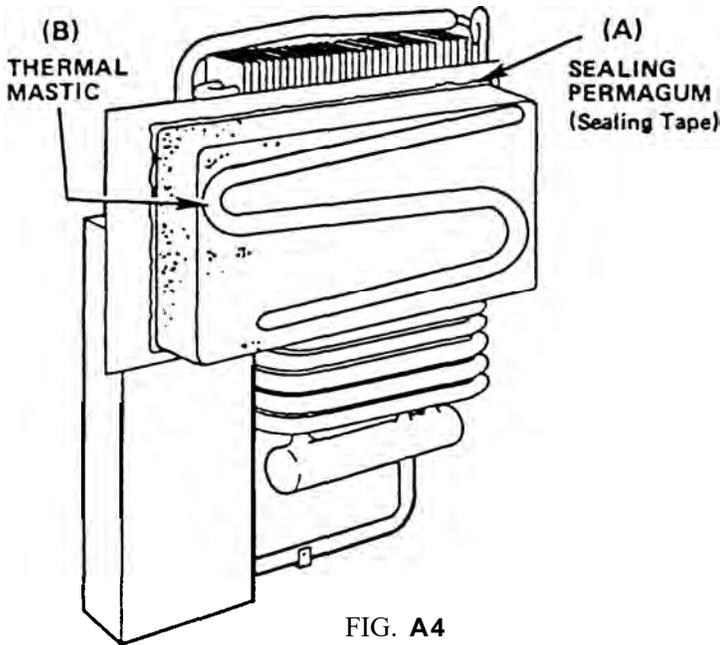

FIG. A4
2. Apply sealing permagum (sealing tape) on mounting plate (A; FIG. A4).
3. Apply thermal mastic *on* the evaporator coil (B; FIG. A4).